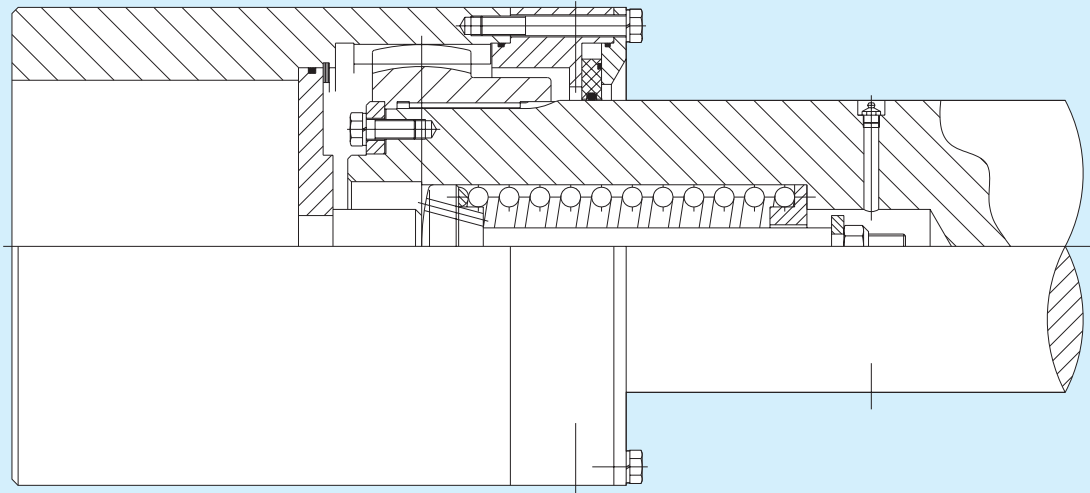

Fig. 1 Shock absorber unit
1) A serious roll entry problem is caused by drooping roll sleeve when spindle support is located under the shaft. This can be overcome with the use of a spring loaded sleeve aligning device, fig 1, which holds the roll sleeve in line with the spindle shaft when the roll is removed, and maintains it aligned and ready for re-entry of new roll.